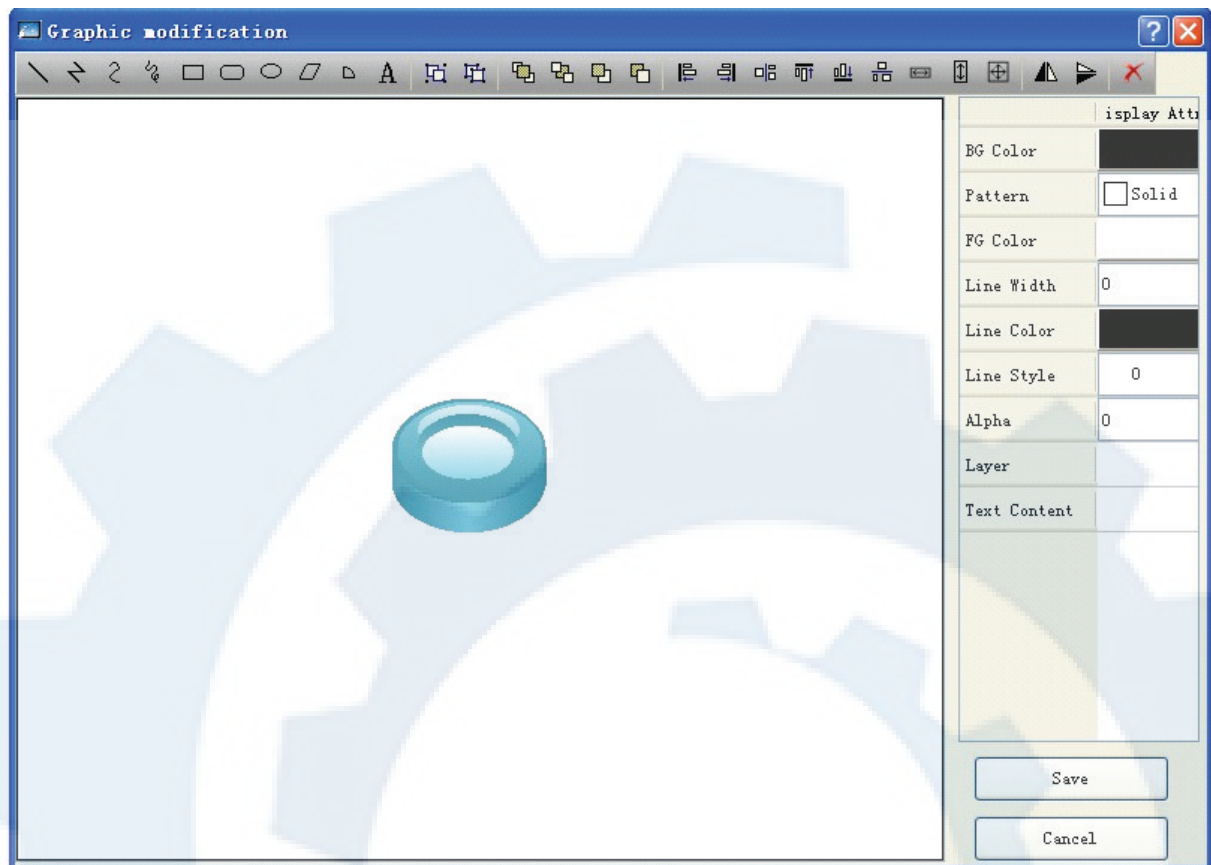

Figure 4-44: Modify a library graph
- Modify: Choose the graph to be modified, click the Modify button on the lower left, and then a dialog as shown in Figure 4-44 will pop up:
In the dialog as shown in Figure 4-44, choose the graph, and choose the Disassemble function button on the toolbar to disassemble the control from the library. Then, you can choose and modify a graph disassembled from the original combination. Choose the graph to be modified, and then you can set its foreground color, background color and pattern in the right list. After modification, choose all the graphs disassembled from the original combination, click the Assemble function button on the toolbar, and click Save button on the lower right. Then a dialog as shown in Figure 4-50 will pop up: